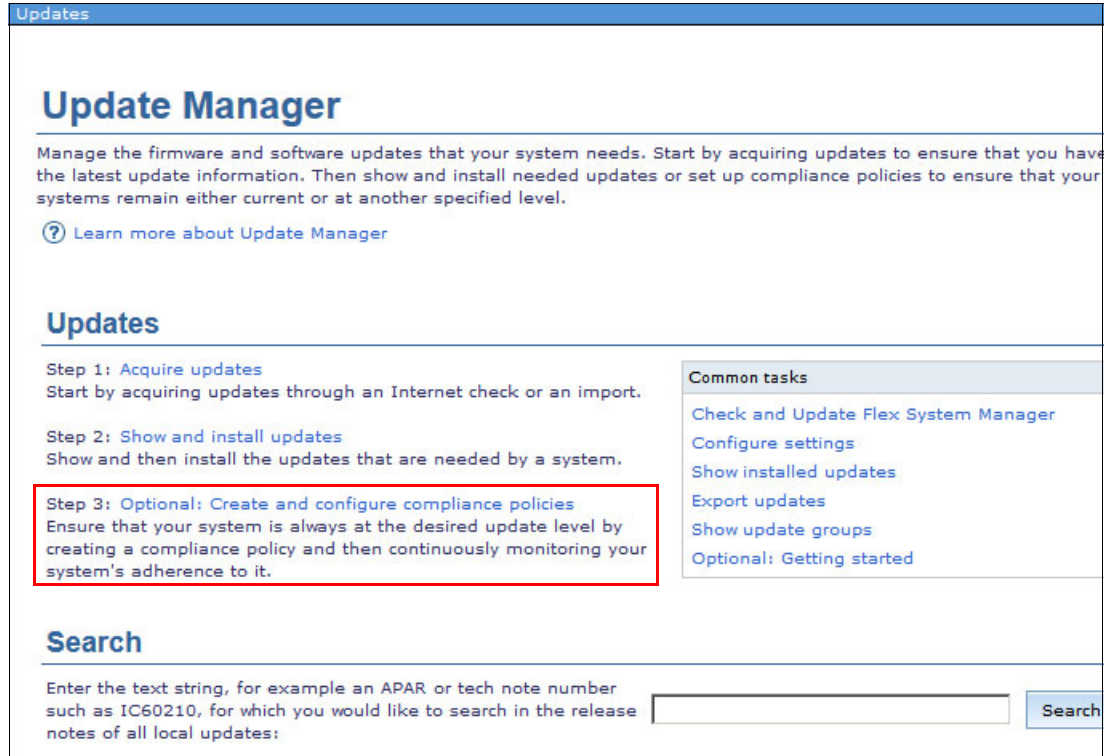

Figure 6-104 Show Update Groups
2. The main Update Manager window opens. This window provides a jumping point for many options such as acquiring updates, creating compliance policies and viewing currently downloaded updates. Click **Optional: Create and configure compliance policies** to create a compliance policy, as shown in Figure 6-104.